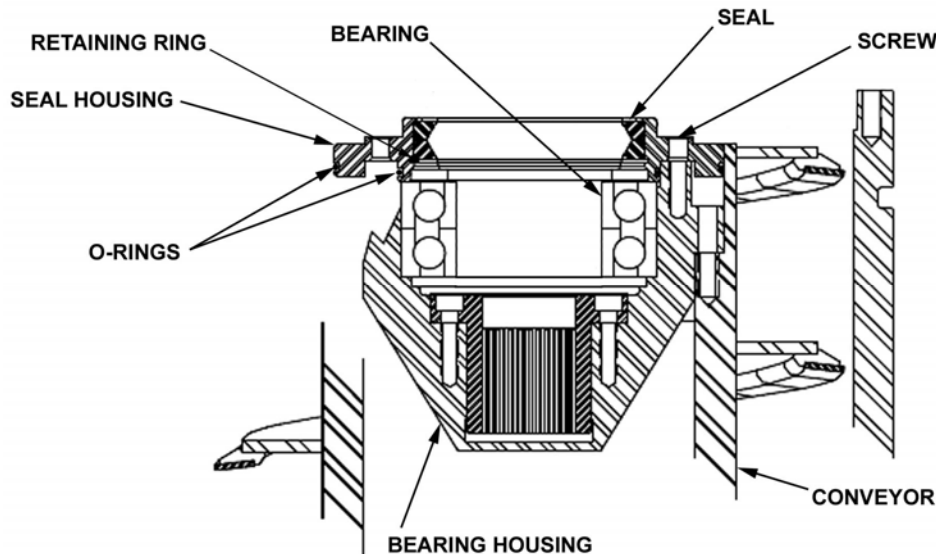

Figure 5-12 Liquid End Conveyor Thrust Bearings installation
3. Remove screws securing liquid end seal housing (Figure 5-12) to bearing housing, and remove seal housing. Remove and discard O-rings installed in external grooves of seal housing.
1. Insert new seal into liquid end seal housing (Figure 5-12), and secure with retaining ring. Install new O-rings in external grooves of seal housing.